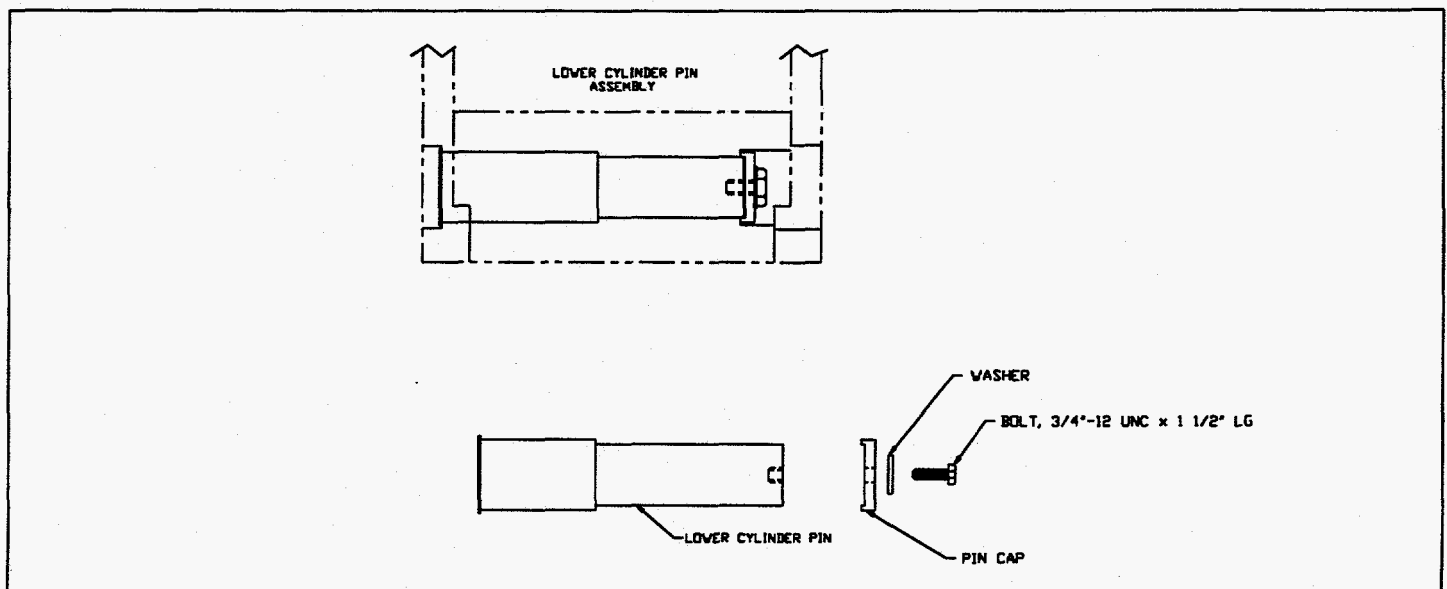

FIGURE 11, LOWER CYLINDER PIN
- 6 Remove the hex bolt and pin cap on the lower cylinder pin (Figure 11, page 23). Tap the lower pin free using a wood dowel and a mallet.
- 2 Attach the pin cap and hex bolt on the lower cylinder pivot pin (Figure 11, page 23). Torque the hex bolt to snug tight.